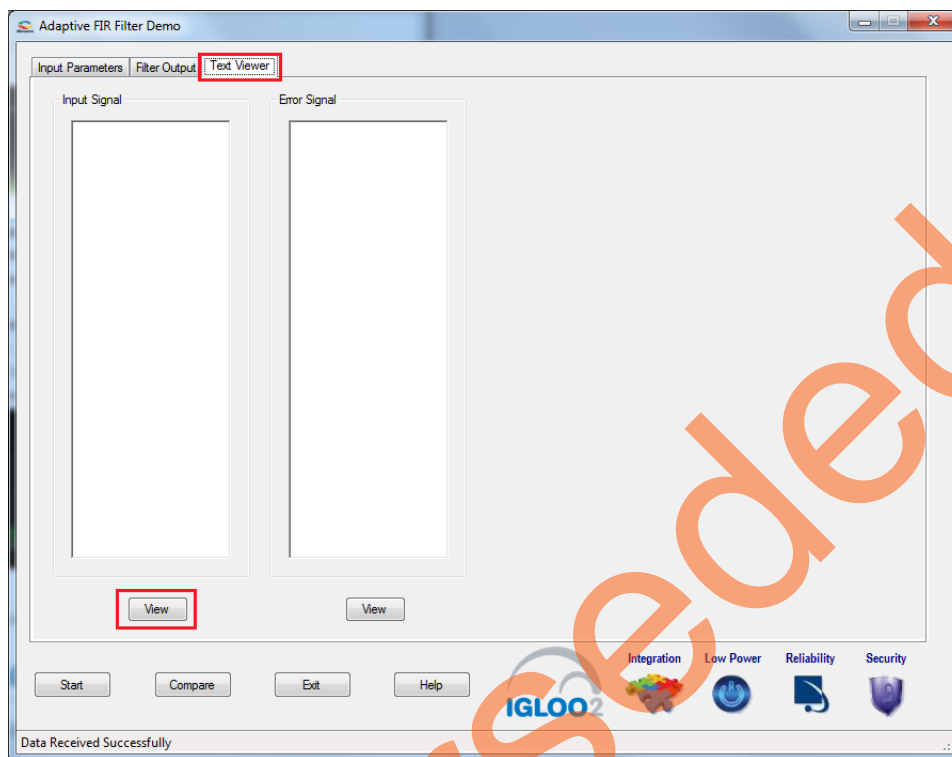

Figure 25 • Text Viewer
9. The input signal and error signal values can be viewed in the **Text Viewer** tab. Click the **Text Viewer** tab and then click the corresponding **View** shown in Figure 25.